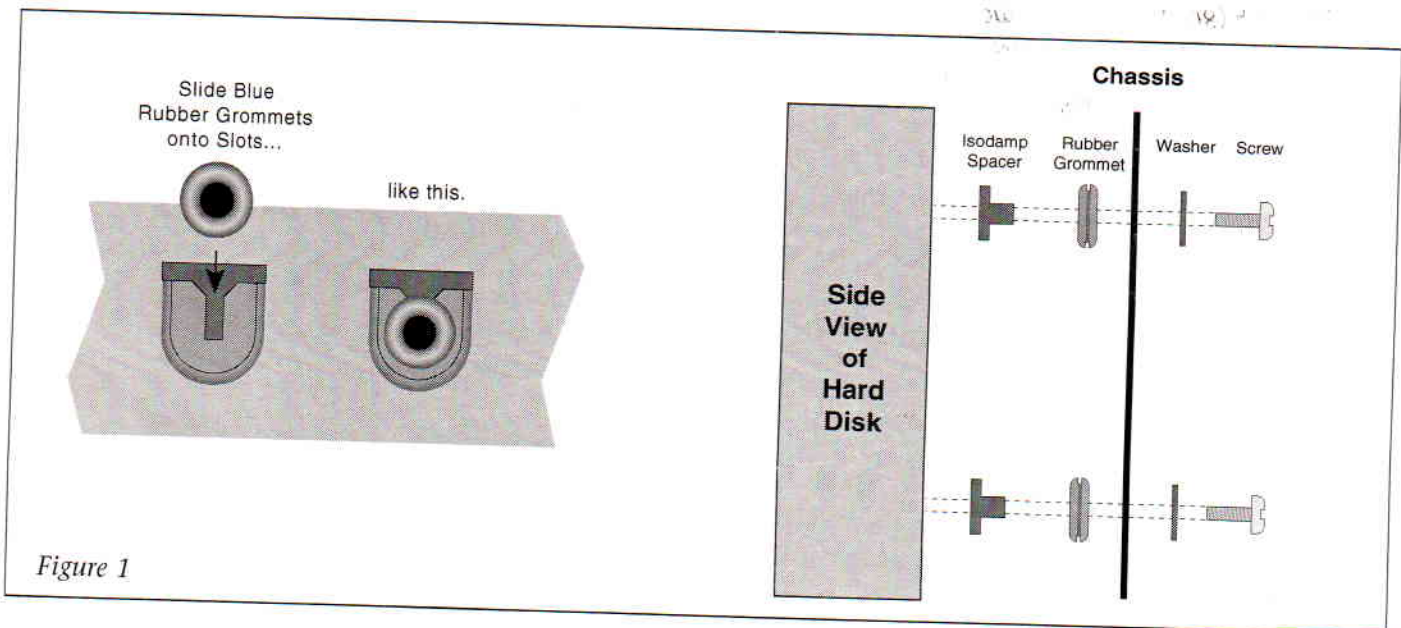

Figure 1
- 2) Locate grommet pockets (4) built into the right side of the chassis and insert rubber low load grommets by squeezing and pushing them into place from the inside of the unit. See figure 1.
*These instructions are NOT provided as a guarantee against improper installation. When in doubt contact: E-mu Customer Service at (408) 438-1921.*